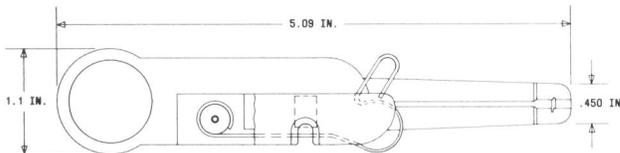

Fig. 1—953A Wire Stripper Tool
2.01 **953A:** The 953A tool (Fig. 1) is a wire stripper and wire stapler used to install inside wiring. This tool combines the staple-holding feature and wire jacket stripping feature in one tool.